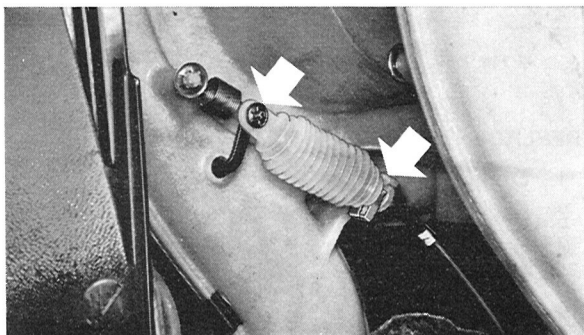

Fig. 8-83. Vacuum motor for air shutter to rear floor
4. Disconnect the vacuum motor locking from the shutter shaft and attachment (Fig. 8-83), and lift forward the motor with vacuum hose.